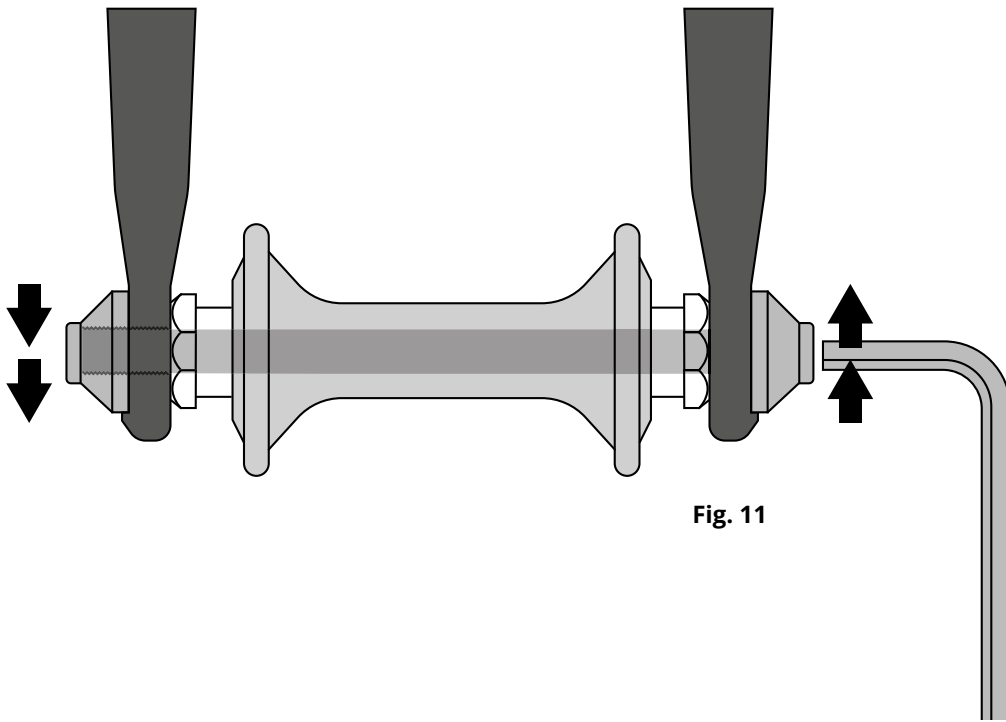
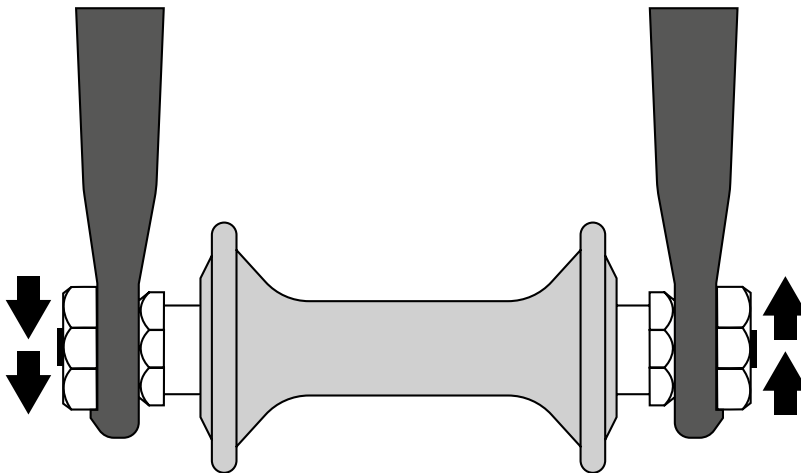

Fig. 11
Fig. 12
- 3. Some Ebike brakes, such as disc brakes (fig. 11) and linear-pull brakes (fig. 12), are extremely powerful. Take extra care in becoming familiar with these brakes and exercise particular care when using them.**
Most rim brakes have some form of quick-release mechanism to allow the brake pads to clear the tire when a wheel is removed or reinstalled. When the brake quick release is in the open position, the brakes are inoperative. Please contact **BIKE.com** at cs@bike.com or call at **1-(877)-755-2453(BIKE)** or ask your dealer for all service to make sure that you understand the way the brake quick release works on your Ebike (see figs. 12, 13, 14 & 15) and check each time to make sure both brakes work correctly before you get on the Ebike.